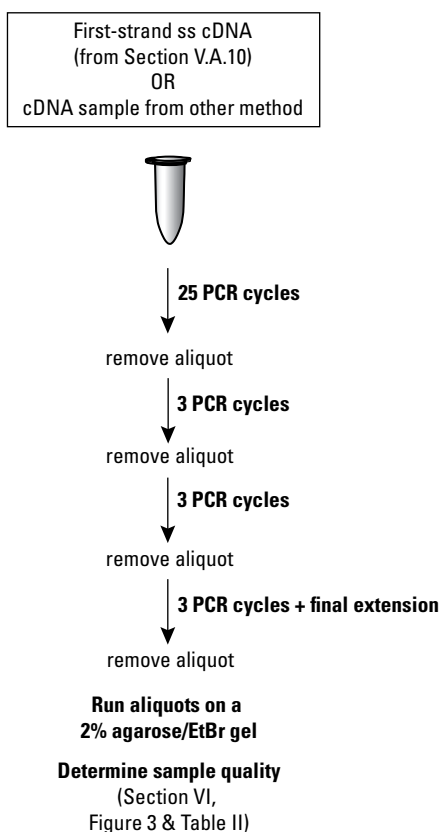

Figure 2. Optimizing PCR cycle number for the RNA/cDNA Quality Assay.
These guidelines were determined using the Control Total RNA and a hot-lid thermal cycler; optimal parameters may vary with different templates and thermal cyclers. To best determine the quality of your sample, you must optimize the PCR cycling parameters by performing a range of cycles, as described in this section (Figure 2). Choosing the optimal number of PCR cycles ensures that the ds cDNA will remain in the exponential (i.e., linear) phase of amplification. When the yield of PCR products stops increasing with more cycles, the reaction has reached its plateau. Overcycled cDNA can generate an inaccurate representation of sample quality. Undercycling, on the other hand, can yield an uninformative result.
8. For each PCR tube, determine the optimal number of PCR cycles (see Figure 2):